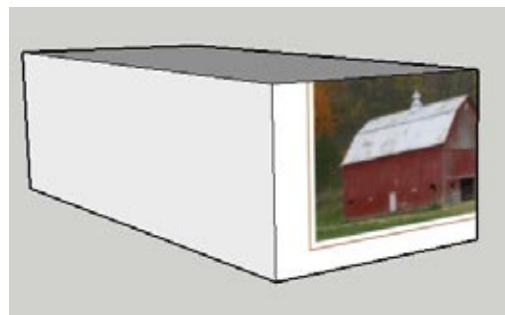

Figure 9-34
2. Open the In Model folder of the Materials window. This folder contains the image with which the barn will be painted. The photo shows three faces: the front, side, and roof of the barn. Paint the image onto the front face of the barn (Figure 9-34).